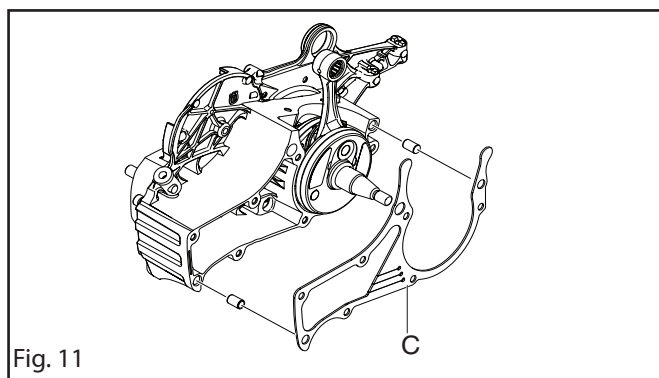
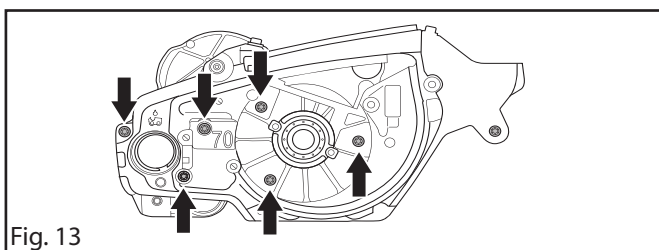

Fig. 11
Fig. 13
4. Place the guide pegs in the clutch side's crankcase half, grease and insert the gasket (C). See figure 11.
5. Use the Crankshaft assembly tool. Turn around the sleeve (B) and pull on the flywheel side's crankcase half. Pull until the gasket is clamped between the
6. Fit the six screws. Tighten them alternately and then fully. See figure 13. Cut off the gasket at the level of the cylinder base.